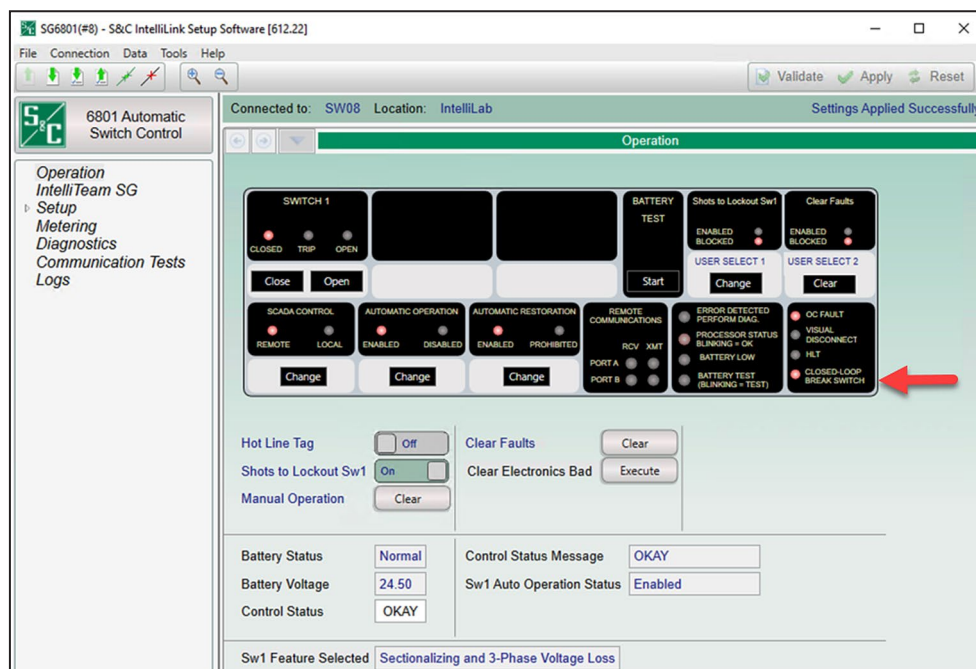

Figure 17. The 6801 switch control CLOSED-LOOP BREAK SWITCH LED.
- STEP 3.** If the closed-loop break switch has a 6801 switch control, go to the *Operation* screen and verify the CLOSED-LOOP BREAK SWITCH LED is on. See Figure 17.